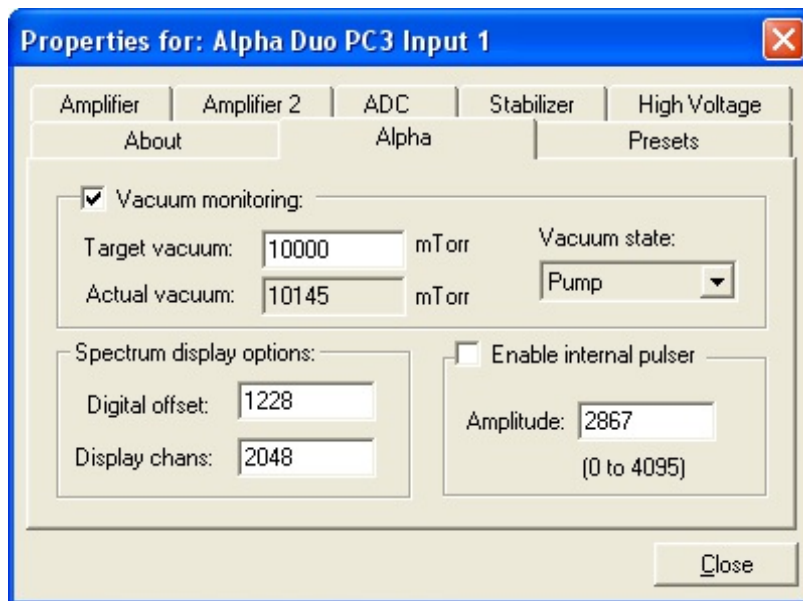

Fig. 9. Alpha Tab
- **MAESTRO** — Go to the Alpha tab under **Acquire/MCB Properties...** and select the vent, pump, and hold settings as needed from the **Vacuum state** droplist, using the **Actual vacuum** readout to monitor chamber pressure. (See Fig. 9, page 16.)
The Alpha tab (Fig. 9) contains the controls for the chamber pressure, digital offset, and pulser.